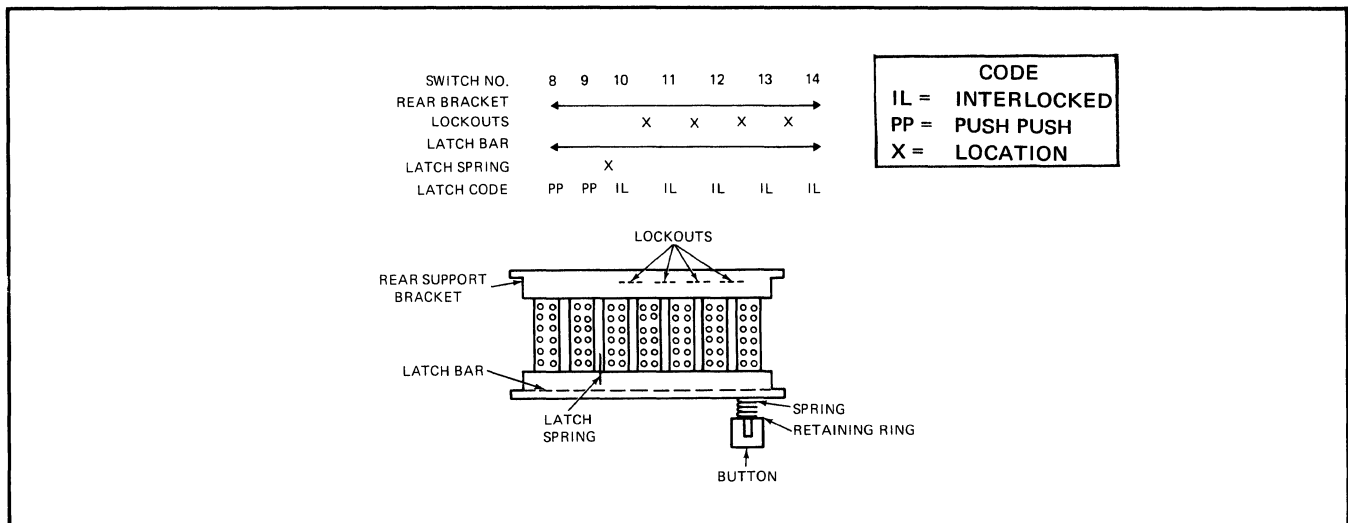

Figure 4-2. FUNCTION SWITCH ASSEMBLY
- c. Remove four (4) screws on side of each handle. Remove the front panel from the instrument.
- e. Remove four (4) screws which secure the front sub-panel to the inner chassis and three (3) screws which secure DISPLAY PCB (A14) to front sub-panel. Remove front sub-panel.
- f. Remove seven (7) mounting screws from the display PCB (A14).
- e. Remove rear support bracket and lockouts by bending all locking tabs on rear support bracket, up. (Figure 4-2).